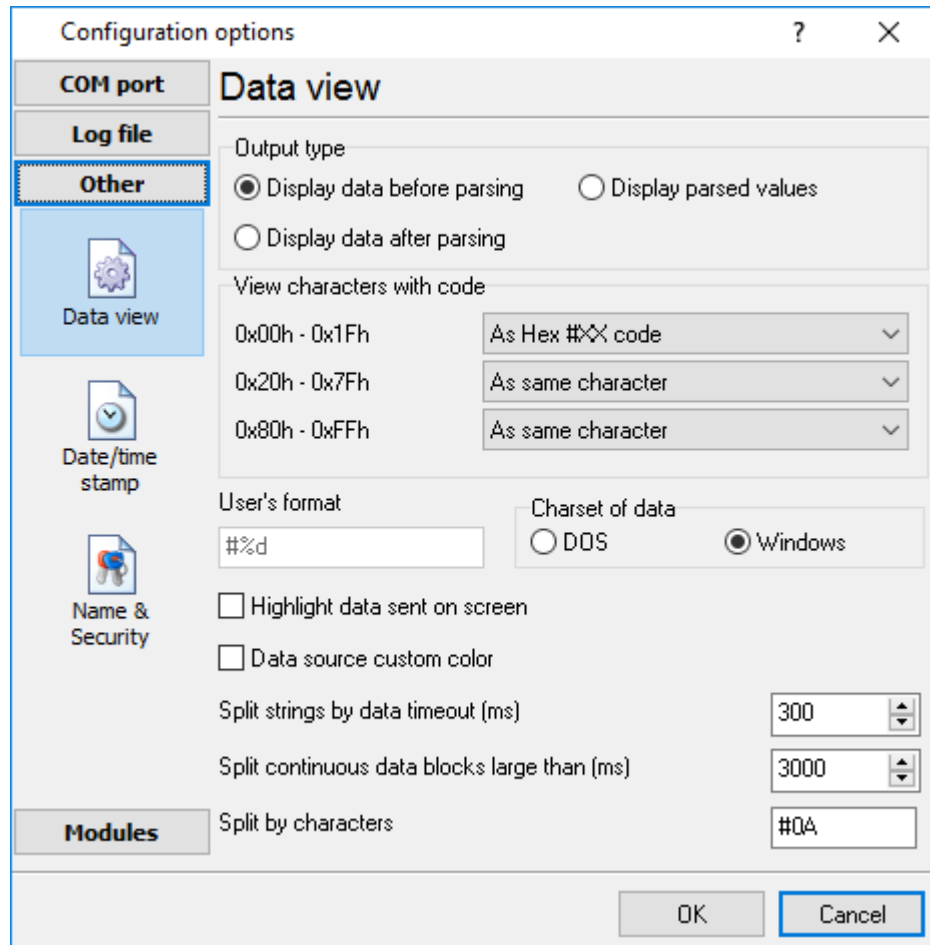

Fig. 10. Data view
8. **Split by characters** - this option allows to visually splitting continuous data flow in the program window using the specified symbols. For example (fig. 10), the program will use a character with the 0Ah hexadecimal code that is equal to the "LF" ASCII code.